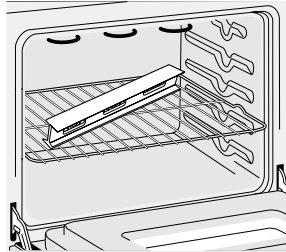

Figure 13
1. Install an oven rack in the center of the oven (see Figure 13).